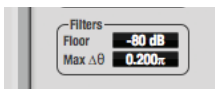

Figure 10-55: Filters
The *Filters* section (Figure 10-55) lets you control the density of the Phase Analysis display.
*Floor* (Figure 10-55) determines the amplitude threshold for the display. When the amplitude of both channels drops below this threshold, the signal is not shown.
*Max delta theta* (Figure 10-55) only affects Line view (see “Line/Scatter” on page 113) and sets the maximum difference in frequency between plot points in the line plot. For two adjacent frequencies, if the distance (phase difference) between the two frequencies is greater than the *Max delta theta*, then the line is not drawn.